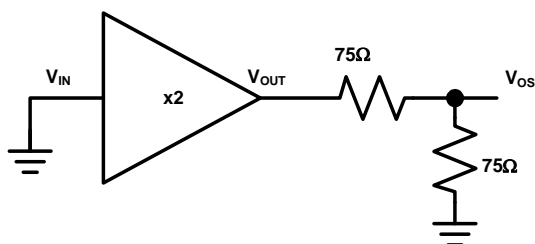

FIGURE 2. V_{0S} MEASUREMENT CONDITIONS
- Offset measurements are referred to 75 Ω load as shown in Figure 2.